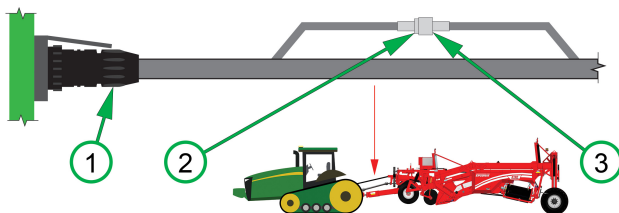

Figure 22
- There are nine start of row functions in the Start/End Of Row (SEOR) sequence. Scroll through the start of row functions to display and/or edit the associated *Turn on Time (sec)* and *Duration (sec)* values. Press soft keys 1 (*UP*) and/or 2 (*DOWN*) to scroll through the start of row functions. For an example of how the nine start of row functions could be programmed, see Figure 22. In the figure, (1) indicates when the *START* key is activated.